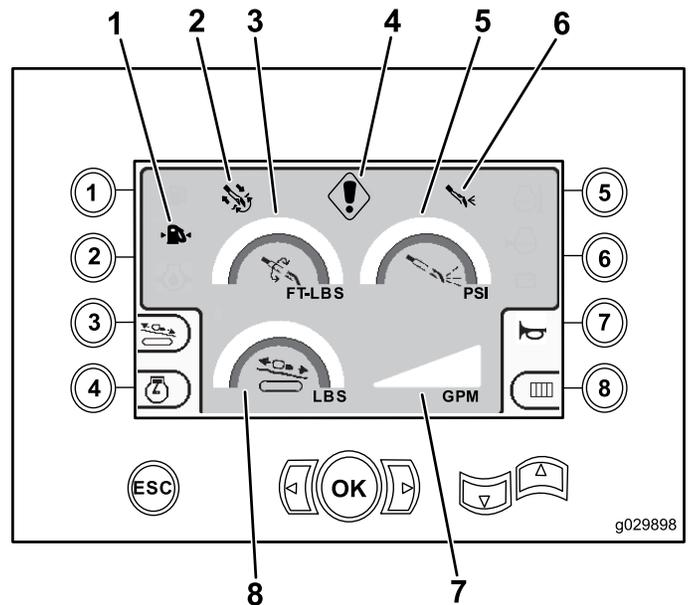

Figure 3
This screen provides measurements on rotary torque in ft-lbs, drilling-fluid pressure in psi, carriage force in lbs, and drilling-fluid flow rate in gpm (Figure 3).
- Drilling and/or engine-fault code warning (Figure 3)
- Low-fuel warning (Figure 3)
- Drilling fluid is in the ON position (Figure 3)
- Auto drill is in the ON position (Figure 3)